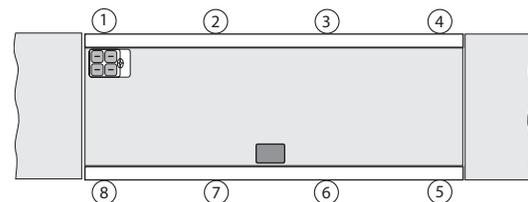

Figure 4-2. Trimming Load Cell Number One
1. Park the cart as close as possible to side 1 being trimmed with the wheels centered over the end load cell mount (No. 1 in Figure 4-2). Record the indicator reading. Remember that